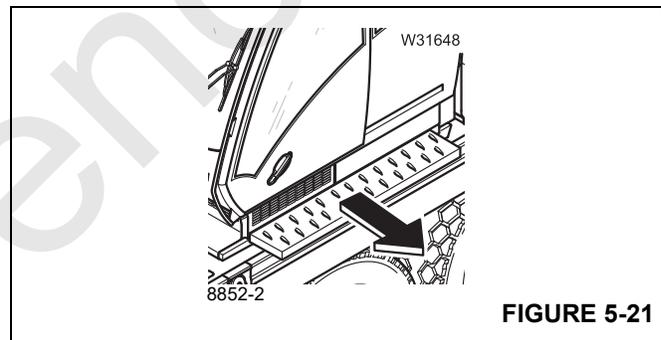

FIGURE 5-21
12. Extend the Step (Figure 5-21) if necessary. Refer to *Superstructure Cab Platform*, page 4-31.
10. Retract the Step as shown in (Figure 5-21).